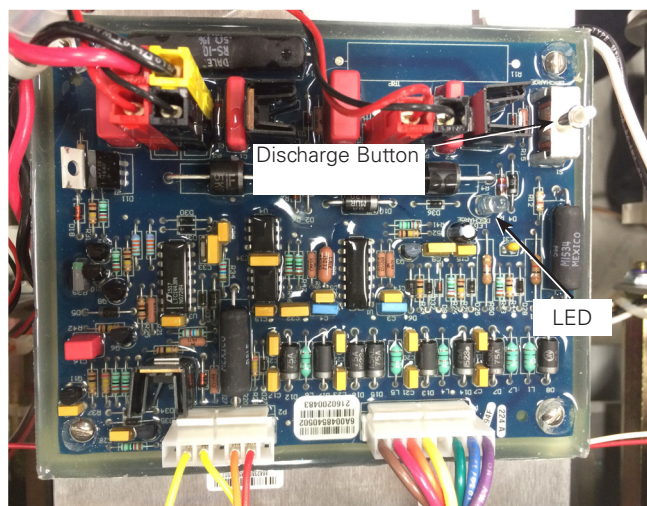

Figure 13. Location of white discharge button and LED discharge indicator on actuator circuit board.
4. Locate the white Discharge button on the actuator circuit board. See Figure 13.